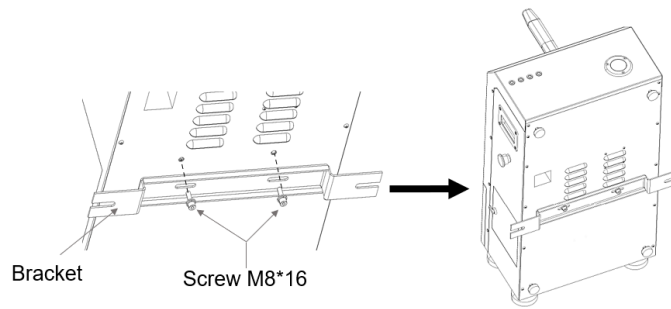

FIG.6
3. Install the bracket to the device as shown in FIG. 6